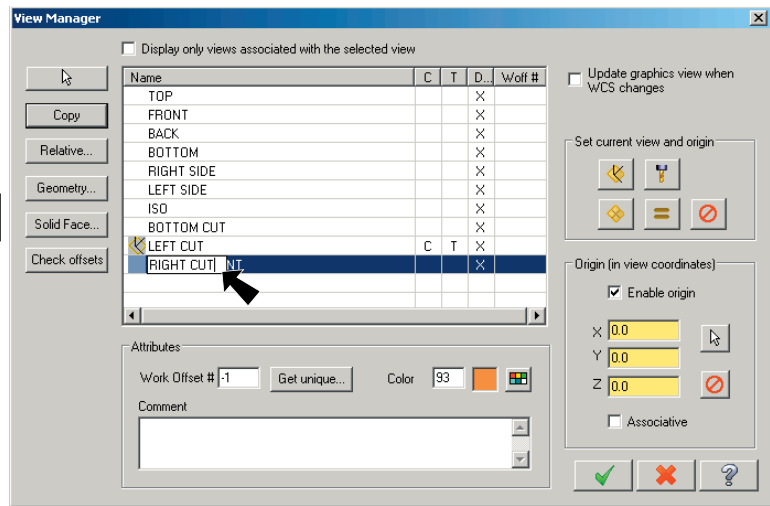

Fig. 68
Step 4. Rename COPY OF FRONT to **RIGHT CUT**. To rename, slowly click the view name and key-in the new name, **Fig. 68**.